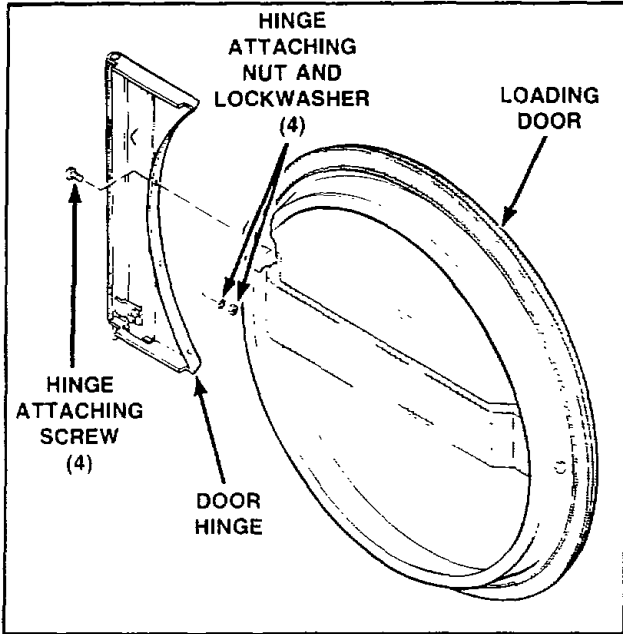

Figure 2
### 3. DOOR HINGE (Figure 2)
- b. Remove nuts and screws holding hinge to door frame, Figure 2